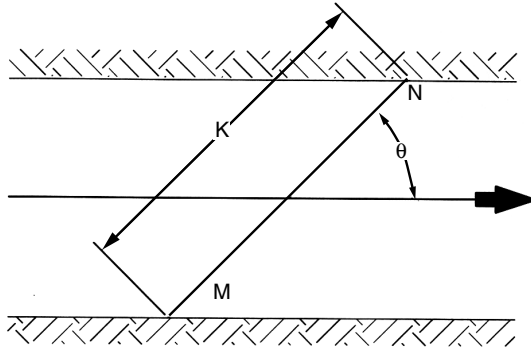

FIGURE U-1 Ultrasonic discharge measurement.
**Ultrasonic method** A method of open-channel discharge measurement using the velocity of ultrasound (a sound with a frequency greater than 20,000 Hz) in water. It consists of two transducers M and N, installed obliquely on opposite banks of the channel, and of the apparatus to measure the ultrasound velocity. *See also* acoustic method; Doppler current meter; Figure U-1. The discharge Q is: